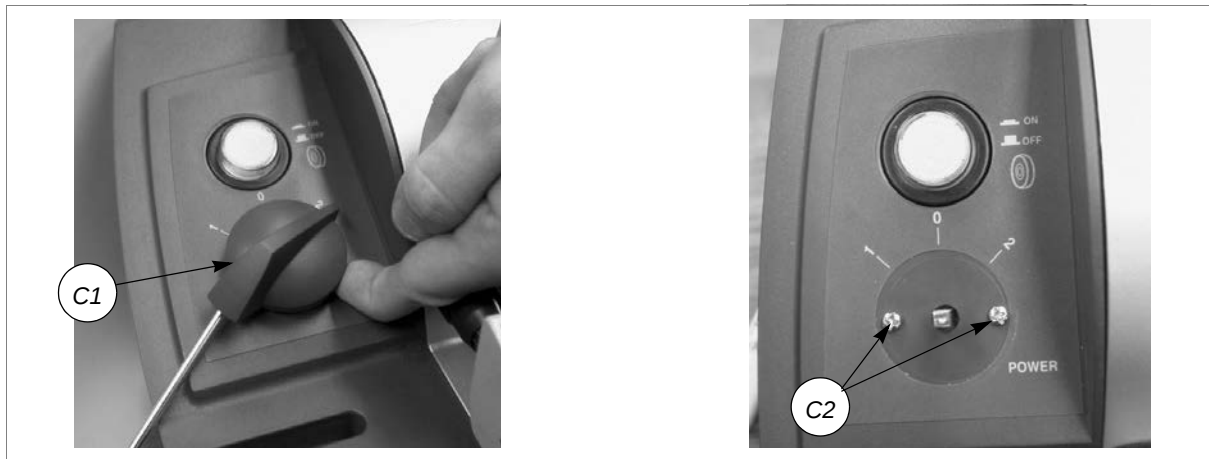

Fig. 38
- 3) Pull out the commutator (C) knob (C1) and loosen the 2 fixing screws (C2) (fig.38).
- 8) Push into its seat and fix with the 2 screws (C2) (fig.38).
- 9) Replace the bottom safety plate, fix with the 7 screws (W) and 2 feet.
- 6) Pull the commutator knob (C1) off and loosen the 2 fixing screws (C2) (fig.38, pag.28).
- 23) Push the commutator upwards to replace it in its ideal seat. Fix with the 2 screws (C2). Fit the knob (C1) (fig. 38, page 28).
- 24) Replace the bottom plate and fix with the 7 screws (W) and 2 feet. Fit the swarf tray.